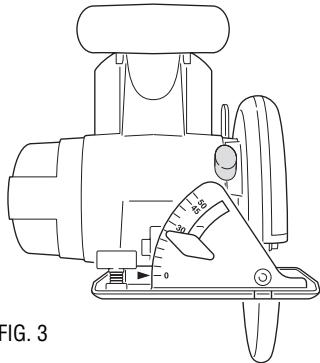
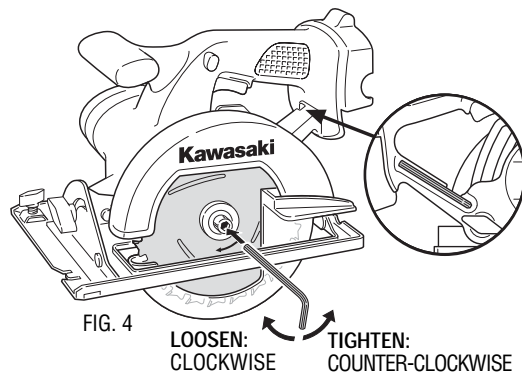

FIG. 3
FIG. 4
5. Use the wrench to tighten the clamping screw while pressing down on the clamping knob (see Fig. 3 and Fig. 4).
2. Use the wrench to loosen the clamping screw while pressing down on the blade safety lock button (see Fig. 3 and Fig. 4).